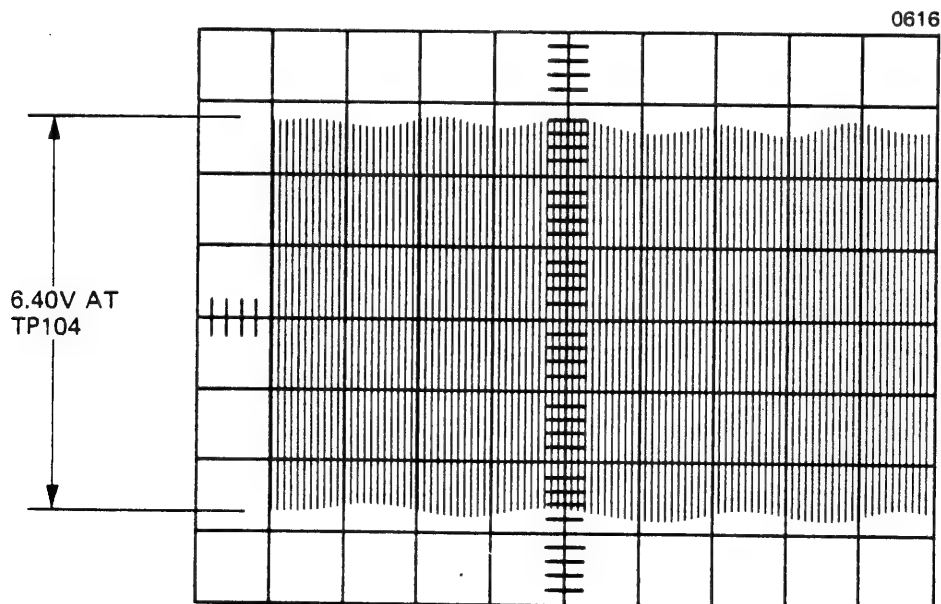

Figure 4-24. Read Amplifier and Differentiator Gain Adjustment
- c. Connect channel 1 oscilloscope probe to test point TP104; then, adjust potentiometer R112 until analog signal has a 6.40-Volt peak-to-peak amplitude as shown in Figure 4-24.